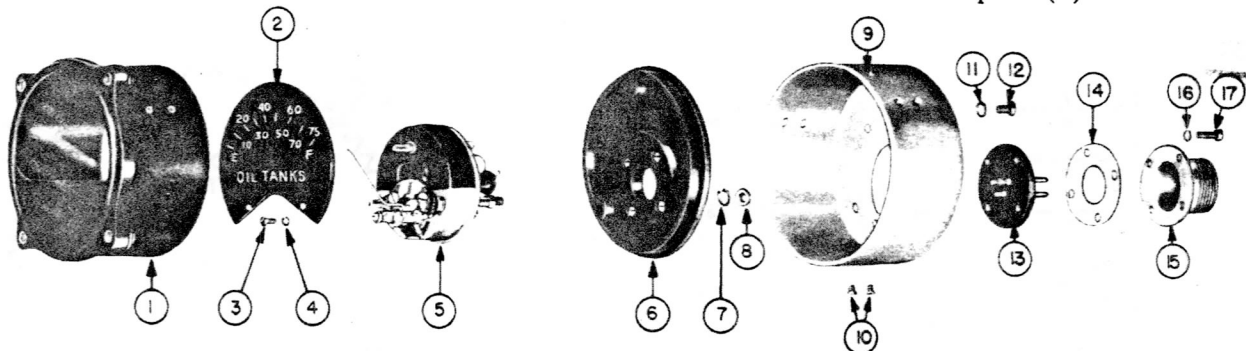

Figure 230—Case, Shield, Scale, Receptacle, and Base Removal—Model 728, Type 11 (Part No. 113665) Liquidometer EA-36
(4) RECEPTACLE HOUSING, RECEPTACLE, AND BASE REMOVAL. (PART NO. 113665.) (See figure 230.)